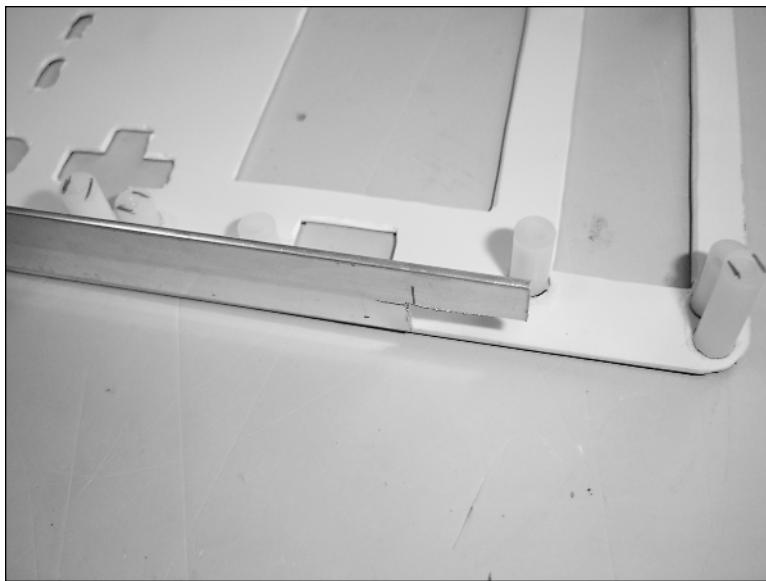

FIGURE 16-2: Where the aluminum should start and placement of the notch.
2. The aluminum strip should start on the case to the left of the screen and about as high, with the notched opening against the front plate, as seen in Figure 16-2.